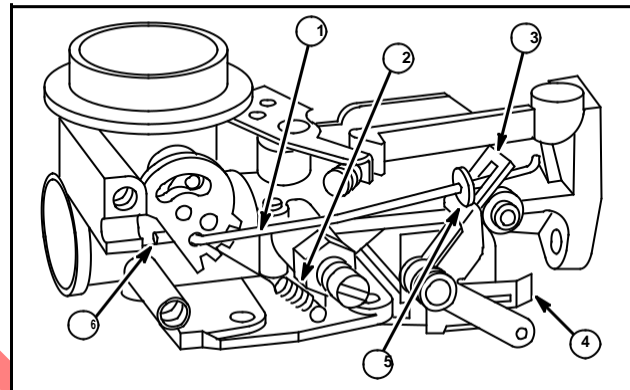

Fig. 79
1. Insert "Z" bend of Choke-A-Matic linkage (1) into same hole (6) as return spring (2).
2. Slide washer on the end of linkage and then slide Choke-A-Matic lever onto shaft (3).
3. Install lever assembly and stop switch (4) on carburetor, Fig. 79.